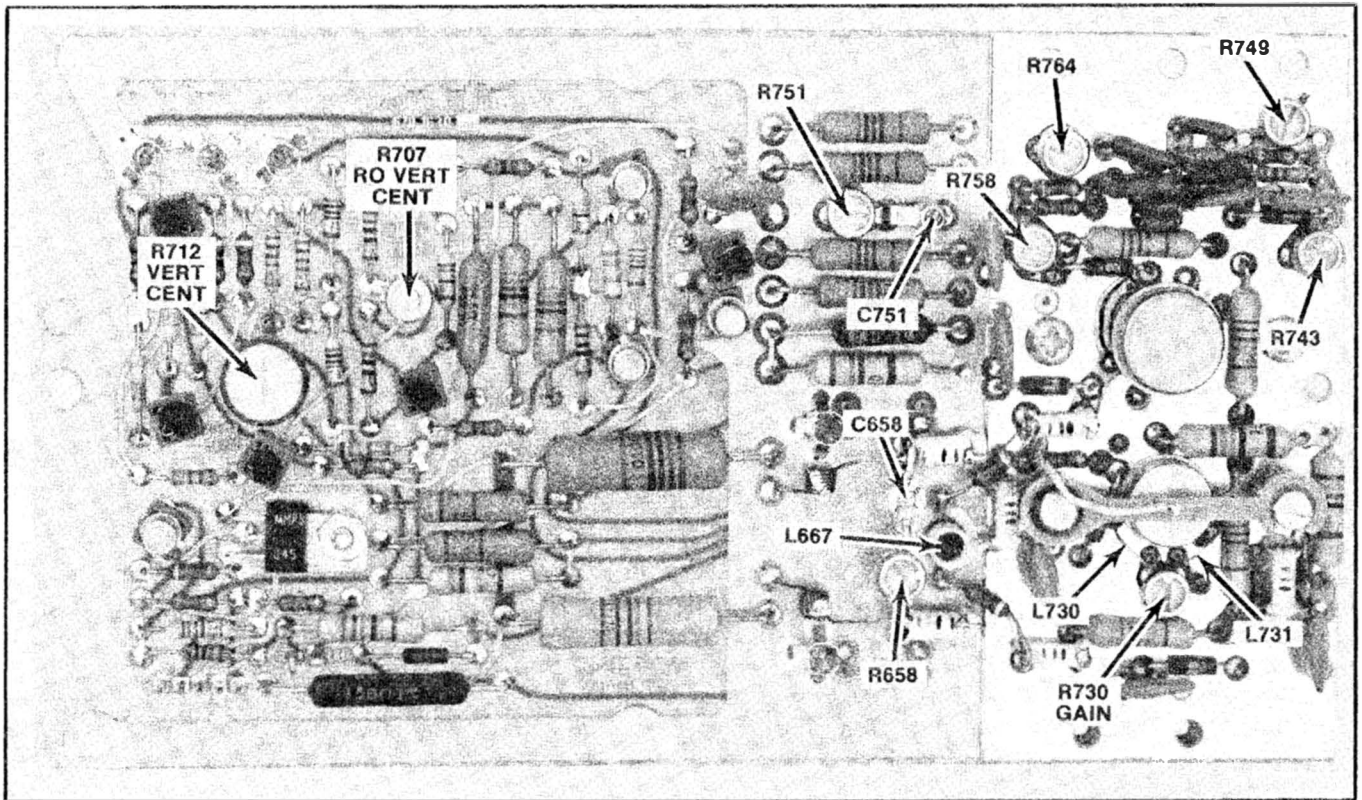

Fig. 5-5. Location of vertical system adjustments.
- Adjust—Vert Cent, R712, for equal spacing of the traces from the graticule center line. (If the traces appear as a single trace, adjust R712 to position the trace to the graticule center line. See Fig. 5-5 for adjustment location.)
- Adjust—Vertical Gain, R730, for one division between each of the center seven displayed traces within 0.01 division. See Fig. 5-5 for adjustment location.
c. Adjust—R764 and R749 for flat top within 0.06 division. See Fig. 5-5 for adjustment location.
Location of the adjustments is shown in Fig. 5-4 and Fig. 5-5. Use the low-capacitance screwdriver to adjust variable capacitors. Repeat the complete adjustment procedure as necessary to obtain optimum response.